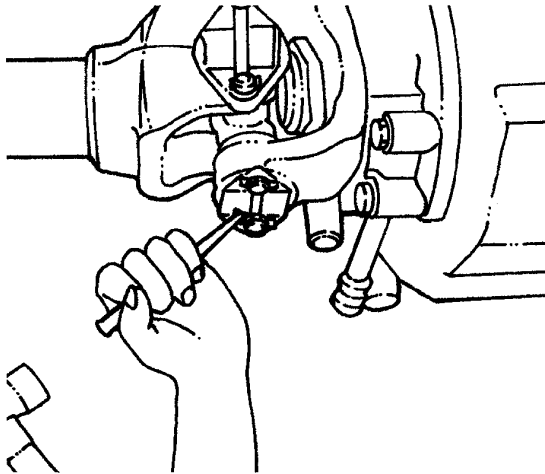

Figure 10 Bend Tabs of Locking Straps Away From Bolt Heads
4. Carefully bend tabs of the locking straps (if equipped) away from the bolt heads with a chisel (Figure 10).